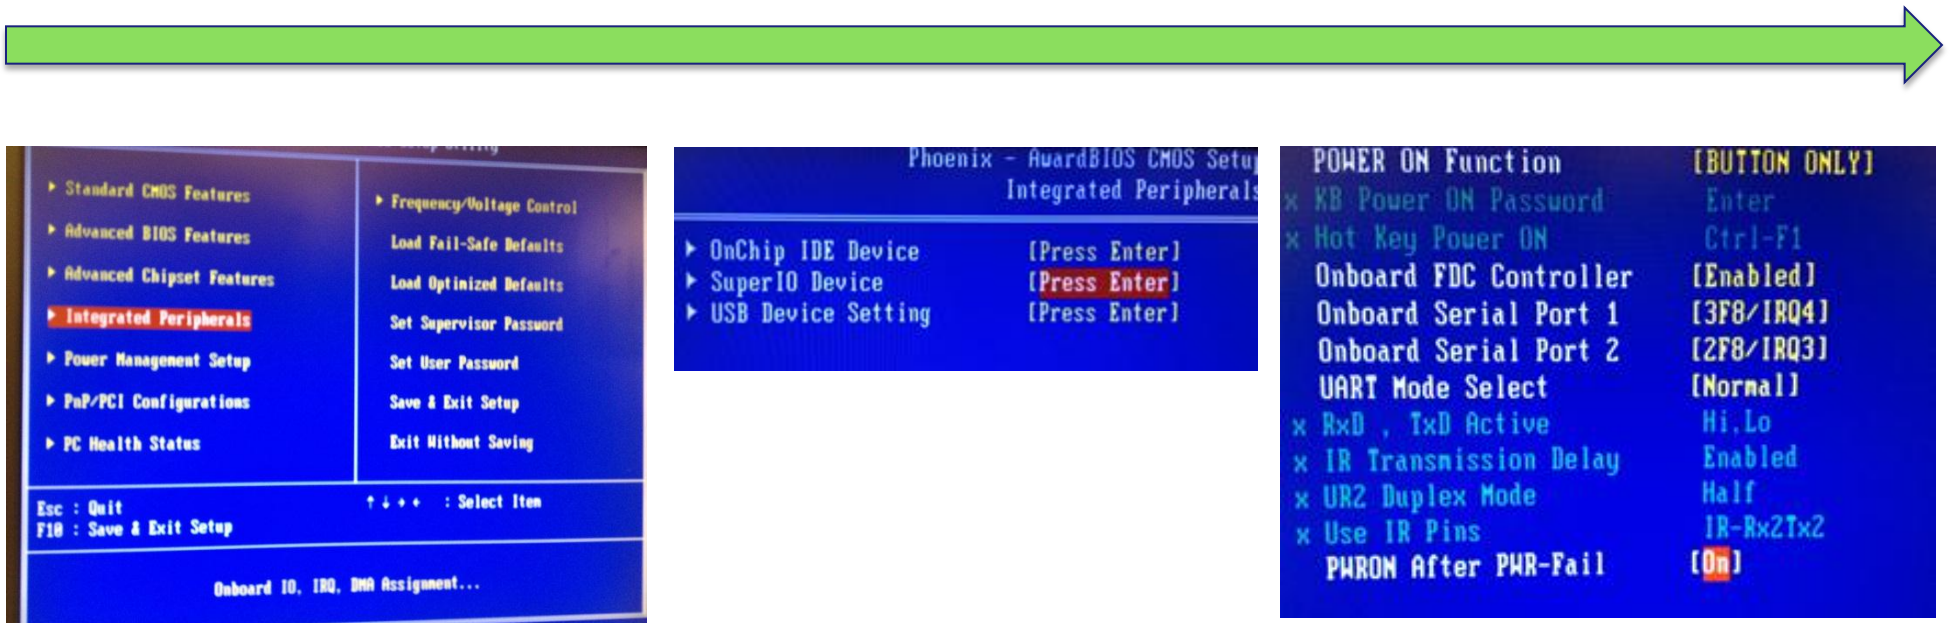

FIGURE 21: Selecting “None” for Drive A
16. On the following screen (Figure 21), click to disable the floppy drive A (“None”):